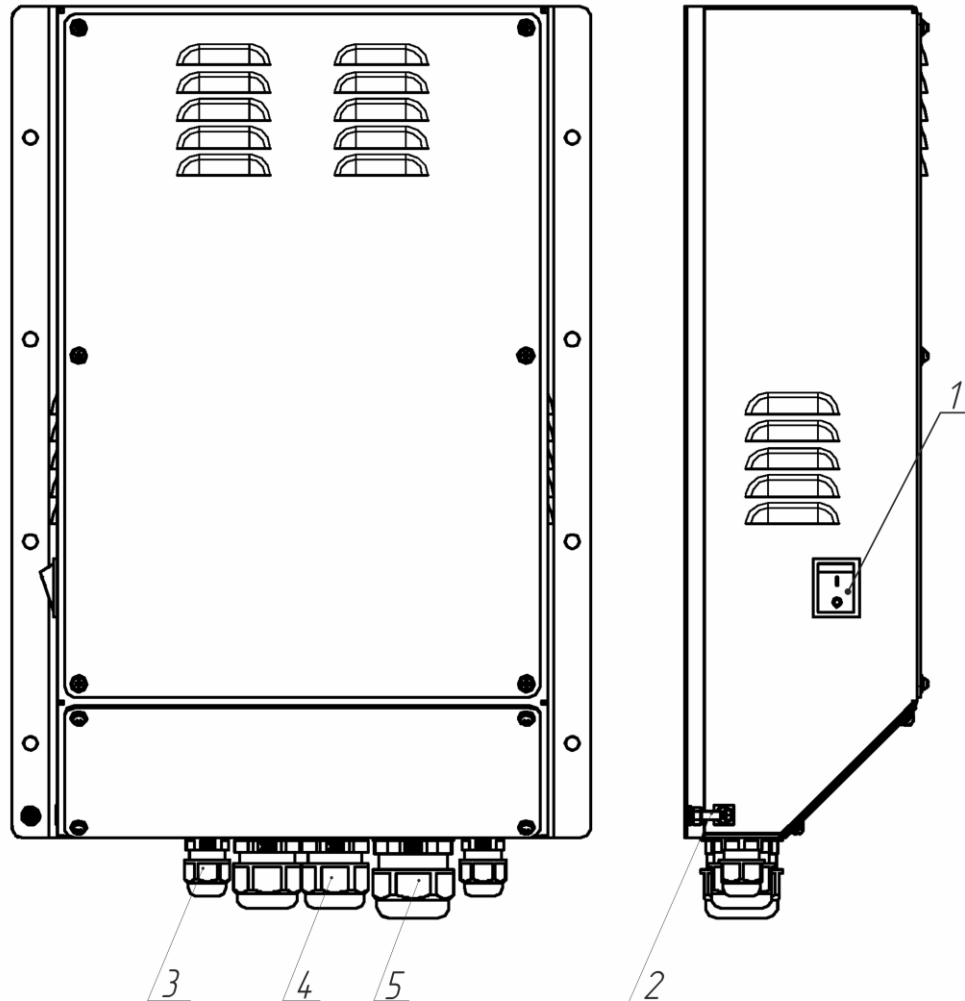

Figure 1 – The Product
1.3.1 The Product is manufactured in metal casing, which has a mounting to vertical bulkhead. A piano type on/off switch with a main power LED (green) is located on the casing side. The LED operates when the switch is turned to power “ON” position (Figure 1).
Note – See positions (Nº) in Figure 1.